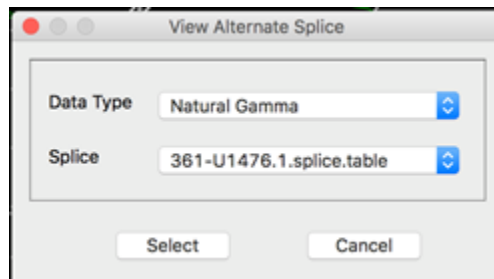

Figure 4-52. Loading a different existing splice.
- Splices remember the core offsets at the time the splice is created and saved. This means a splice has always one compatible affine table and if you are trying to load an incompatible affine or splice you will get the warning in Fig. 4-52. Unfortunately, splices and affines are not associated in Correlator and it is up to the user to keep track of who matches who.
Figure 4-52. User is trying to load a splice that was saved/exported with a different offset for core B2 than the offset of core B2 in the currently enabled affine table.
- CAVEAT: If you select a splice that is not compatible with you currently enabled affine table, you will get the Message in Fig. 4-52. This means this feature is mainly useful to display the current splice with a different data type than the one used to create the splice in the leftmost splice track.